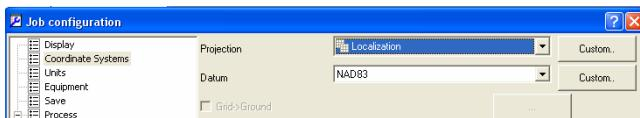

Figure 6-38. Selecting Localization Projection
2. Import a local coordinate file into the job file. Before importing this file, be sure that the Ground coordinate system is specified for the job. To do this, click **Job ▶ Job Configuration** (Figure 6-38), select *Coordinate Systems* and select *Localization* in the *Projection* field: